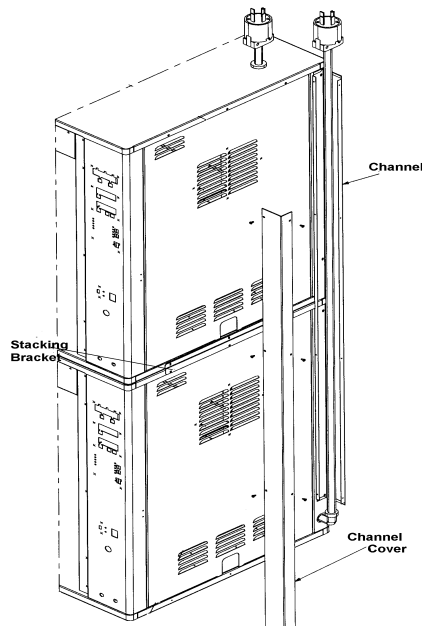

Figure 2-2
10. Mount one side of the channel to the units, using the screws previously removed in step 9. See Figure 2-2.
11. Route the power cord up through the mounted channel and attach the cover to the channel, using the screws previously removed in step 8. See Figure 2-2.